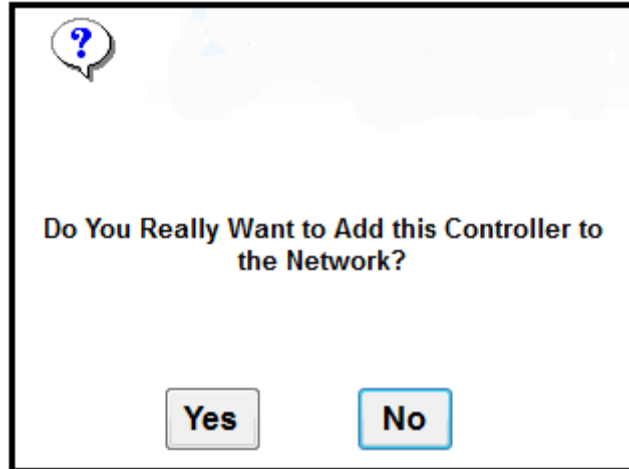

Figure 13: Controller Question Popup
3. When the chosen parameters have been entered, press the **Set** button on the popup. A question box will pop up (see Figure 13).